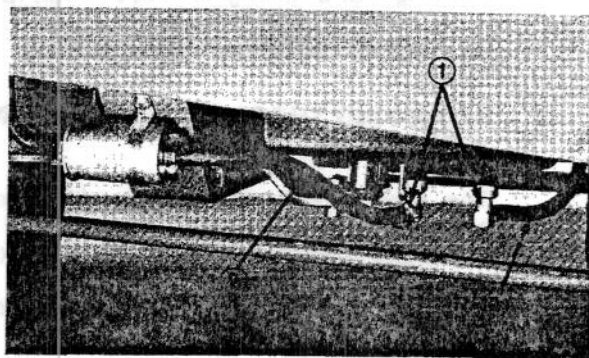

Figure 75
7. Loosen clamps holding both fuel lines on fuel tank fittings. Pull lines off fittings and allow gasoline to flow into large gas can (Fig. 75).
2. Push fuel lines onto fuel tank fittings (Fig. 75). Tighten clamps to secure the lines on the fittings.